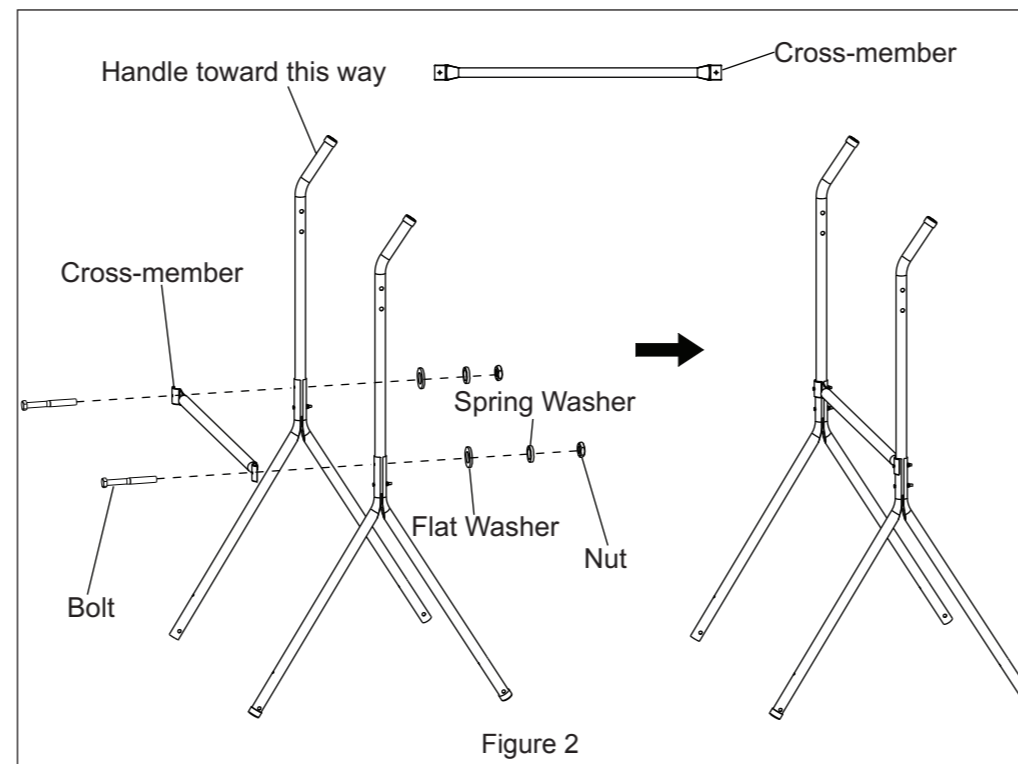

Figure 2
4. Secure assemblies together with one cross-member as shown in Figure 2. Place cross-member on front side of assemblies and secure each with a bolt, flat washer, spring washer and nut through the top hole in the assemblies. Make certain that both handles are facing away from the cross-member.